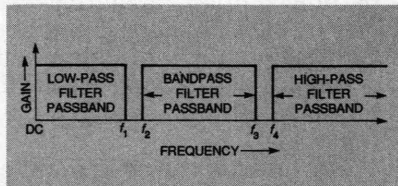
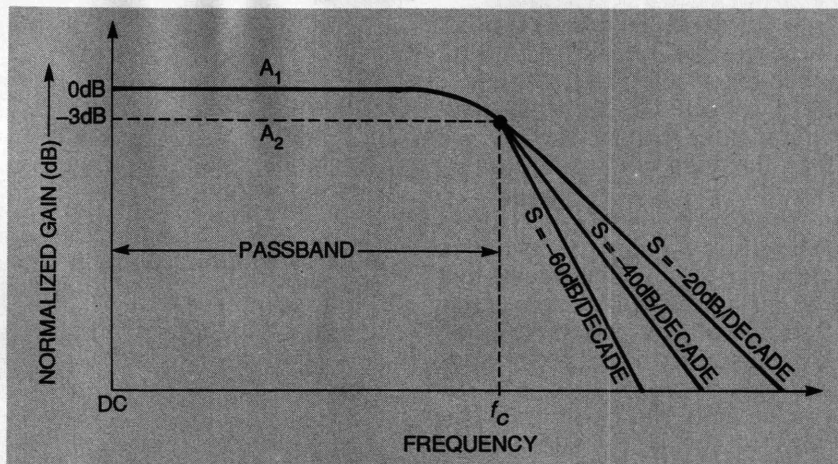
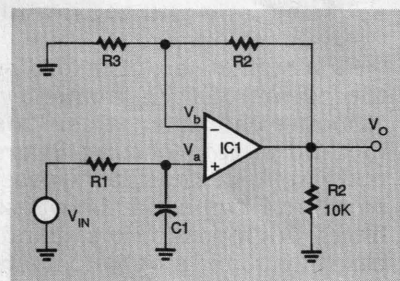

FIG. 1—IDEALIZED frequency-responses curves for low-pass, bandpass and high-pass AC filter circuits.
FIG. 3—TYPICAL LOW-PASS FILTER passband frequency-response curves for first, second and third-order Butterworth filters.
FIG. 9—FIRST-ORDER VCVS low-pass filter circuit using a typical operational amplifier.
Figure 1 shows the frequency-range categories for *ideal* filters. A low-pass filter has a passband from DC (zero Hertz) to a specified cut-off frequency (f_1). All frequencies above the cut-off frequency are attenuated, so they are in the stopband. A band-pass filter has a passband between a lower limit (f_2) and an upper limit (f_3). All frequencies lower than f_2 or greater than f_3 are in the stopband. A high-pass filter has a stopband from DC to a certain lower limit (f_4). All frequencies greater than f_4 are in the passband.
curves shown in Figs. 1 and 2 are idealized. In real life the corners of the curves are rounded and not squares, and the vertical lines are gentle to steep slopes as illustrated in Fig. 3. The Butterworth, Chebyshev, Cauer (also sometimes called elliptic), and Bessel filters are among the typical filters used. The ideal Butterworth frequency-response curve is shown in Fig. 3. The noteworthy properties of the Butterworth filter is that both the passband and stopband are relatively flat, and the transition region slope between them is continuous.
Standard practice in filter nomenclature is to specify the passband between frequencies where the frequency response falls off 3 dB from the mid-passband gain. In Fig. 3, the cut-off frequency (f_c) is at the point where gain (A_2) falls off by a factor of 0.707 to a designated gain value called A_1 . At that spot in the frequency-response curve, the reference point is called the -3-dB point .
At frequencies greater than f_c , the gain falls off linearly at a rate that depends on the order of the filter. The slope (S) of the fall off is measured in either decibels per octave (a 2:1 frequency change) or decibels per decade (a 10:1 frequency change). Note that these two specifications can be scaled relative to each other: -6 dB/octave has the same slope as -20 dB/decade . The slopes shown in Fig. 3 cover three Butterworth cases. A first-
The first-order low-pass VCVS filter is shown in Fig. 9, and its frequency-response curve is shown in Fig. 3 (slope $S = -20$ -dB/decade). The filter consists of a single-section RC low-pass filter driving the non-inverting input of an operational amplifier. The gain of the operational amplifier is $[(R2/R3) + 1]$. The high-input impedance of IC1 prevents loading of the RC network. The general form of the transfer equation for the gain vs. frequency response for the first-order filter is:
determine the component values for the low-pass filter shown in Fig. 9: ground-up and frequency-scaling methods. The following is the ground-up method:
A low-pass filter shown in Fig. 9 is needed to process a transducer signal. The cut-off frequency should be 100-Hz, and the gain should be 5. The solution is: